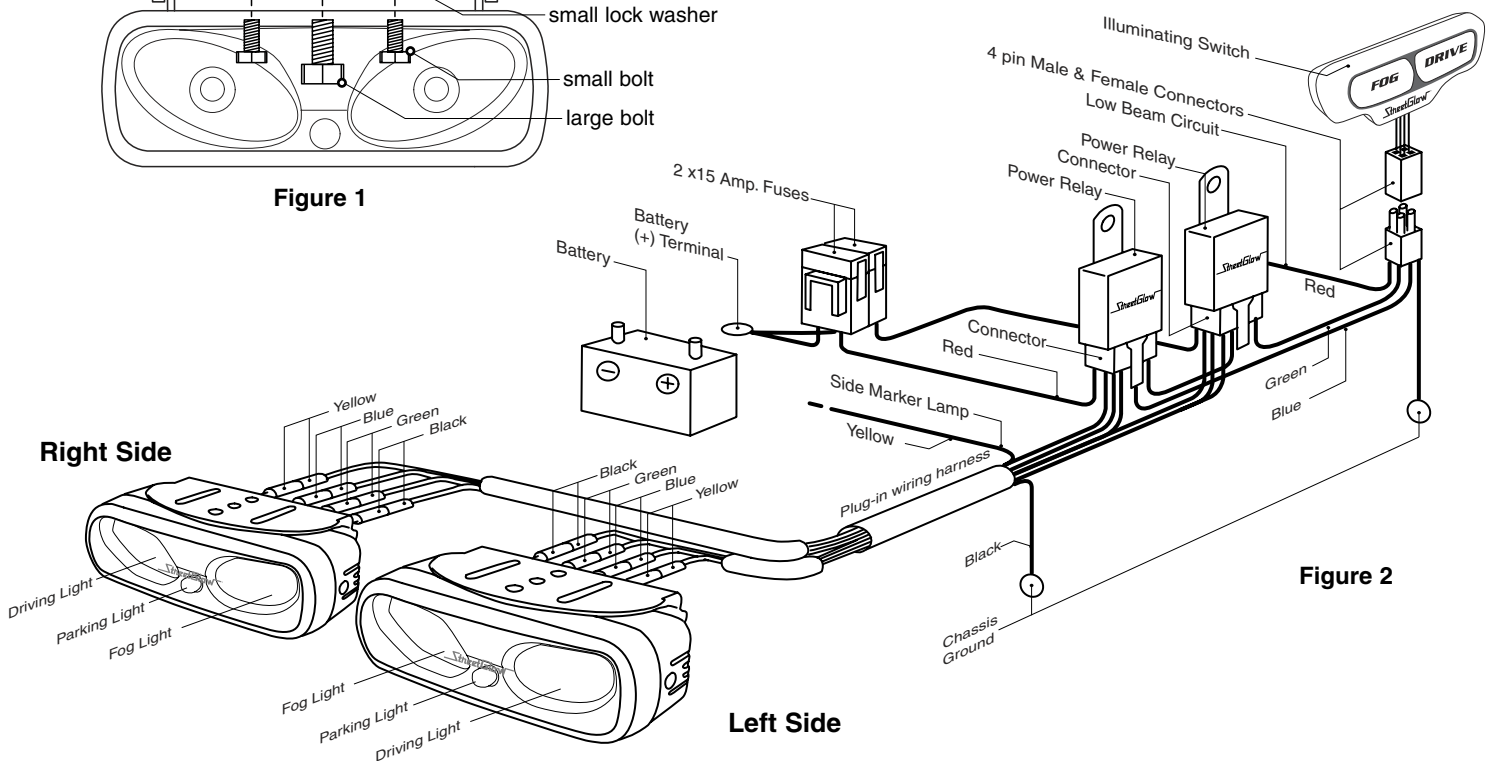

Figure 2
3. Mount lamps on brackets, with fog lamps in the center most position. (Figure 2) Make sure the vent hole is facing down on the lamp housing.
3. Connect the wiring harness relay connector to mounted relay. (Figure 2)
4. Connect BLACK GND wire of harness to chassis ground of the vehicle with ring terminal, then connect yellow wire from harness assembly to fit on side marker lamp (+). (Figure 2)
7. Connect 4 pin male connector of harness to the switch's female connector, and then connect the RED wire from the 4 pin male connector to vehicle's low beam circuit. Connect BLACK wire from 4 pin male connector to chassis ground. (Figure 2)